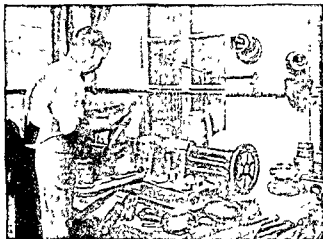

FIG. 192.—"Spinning" a Bowl out of a metal disc on a lathe
FIG 192.—Stages of a Table Fork. 1 Strip of metal 2 Strip cross rolled 3. Blank fork "fied out." 4 Fork pronged 5 Fork stamped 6. Finished fork 7 Cross rolled strip for a tablespoon.
These strips have then to be treated by two rolls, which taper from the middle to the ends. Each strip is passed between the ends, and so cross-rolled or flattened out at each extremity, where the bowl or prongs, as the case may be, and the handle are to come. A cross-rolled strip for a spoon is shown in Fig. 192 (7); one for a fork in Fig. 192 (2).
The fork has next to be *pronged*. The three spaces between the four prongs are stamped out separately by a mechanical punch. A strip about an eighth of an inch deep is left at the top of the prongs (Fig. 192, 4) to keep them from spreading under the next operation of *rounding*, which is effected by driving them into a sunk die with one of the hammers described above. The shank is then *marked* with the maker's name and any suitable design and handed over to a *filer*, who trims off all the rough edges caused by the stamping, and removes the cross-tie at the ends of the prongs. The prongs and head are then beaten by wooden mallets to their proper curve, and the shaping of our fork is completed.